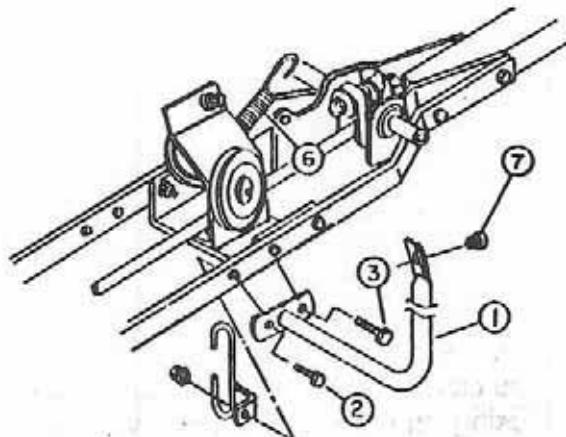

FIGURE 3
- d) Install the rotation support (fig. 3, item 1) on left hand side of subframe by using the existing bolts 3/8 X 1 1/4" (item 2 & 3), making sure the belt guide is 90° to subframe flatbar. Secure bolts with nuts. Insert plastic grommet (item 7) in rotation support (item 1).